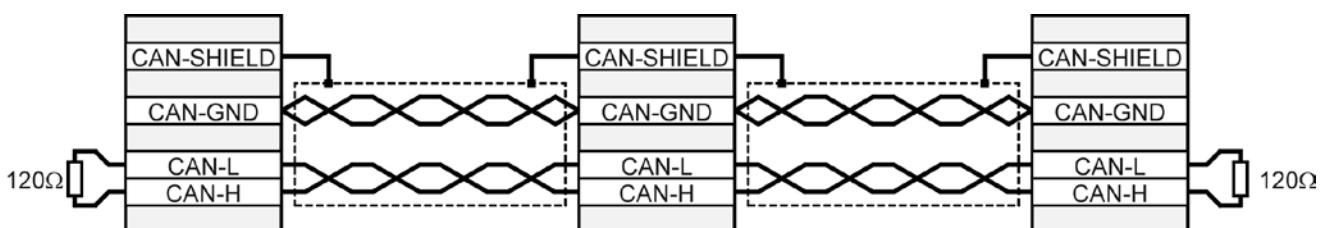

Figure 25: Cabling example for CAN-Bus
- ❖ The individual nodes of a network are always connected in line, so that the CAN cable is looped through from servo drive to servo drive (see *Figure 25*)